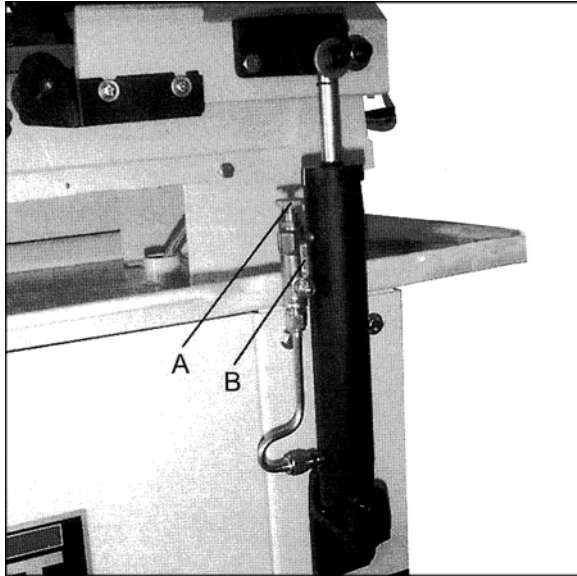

Figure 9
The hydraulic feed selector is used to control the blade feed rate and to lock the bow in vertical position. To increase feed rate, turn knob (A, Figure 9) counter-clockwise. To decrease feed rate, turn knob (A) clockwise. To turn off flow of hydraulic fluid, turn lever (B) as shown in Figure 9. To turn hydraulic cylinder on, raise lever (B) to the 12 o'clock position.